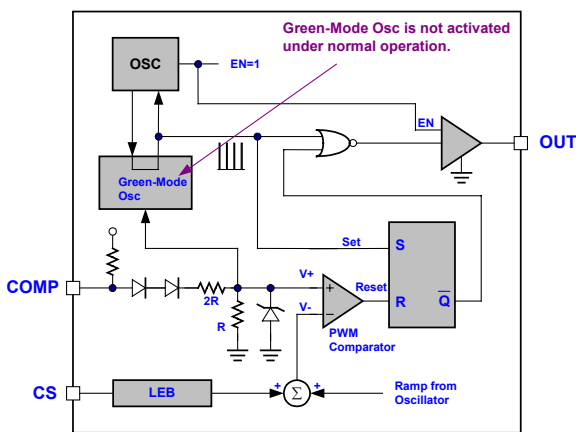

Fig. 10
What LD7551 used to implement the power-saving operation is Leadtrend Technology's own IP^②. In such approach, as shown in the block diagram, 2 oscillators are implemented in LD7551. The first oscillator is to take care the normal switching frequency, which can be set by the RT pin through an external resistor. Under this operation mode, as shown in Fig. 10, the 2nd oscillation (green-mode oscillator) is not activated. Therefore, the rising-time and the falling-time of the internal ramp will be constant to achieve good stability over all temperature range. Under the normal operation, this oscillator is dominated the switching frequency.